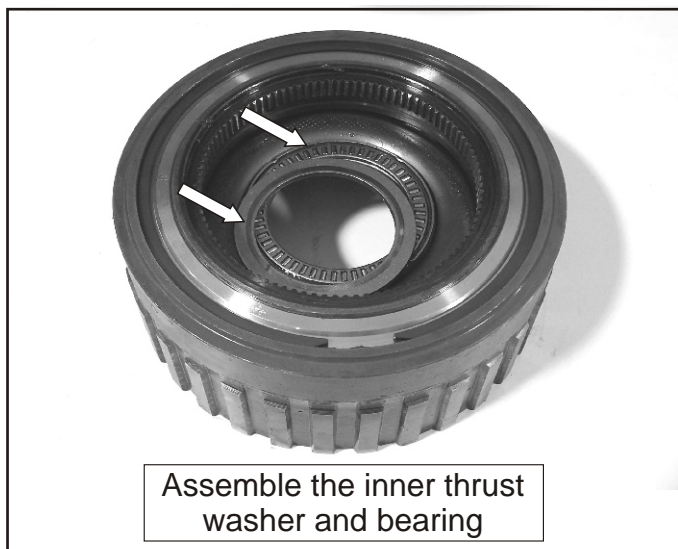

Figure 237
- 166. Assemble the inner thrust washer and bearing into the rear ring gear assembly with assembly lube to hold them in place. See Figure 237.